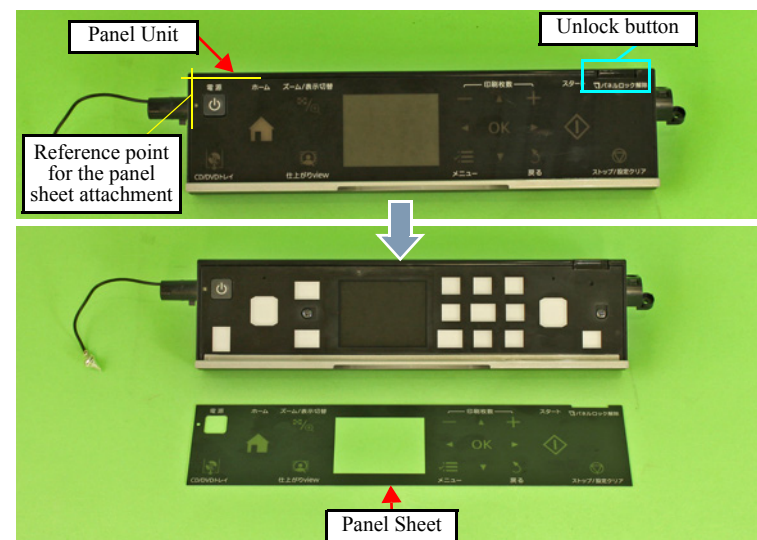

Figure 8-18. Removing the Panel Unit (5)
- Taking the top left corner of the Panel Sheet as the reference point, align the top edge with the top rib of the Panel Unit and put the left edge against the rib, then attach the Panel Sheet. (See Fig. 8-18 (p269).)